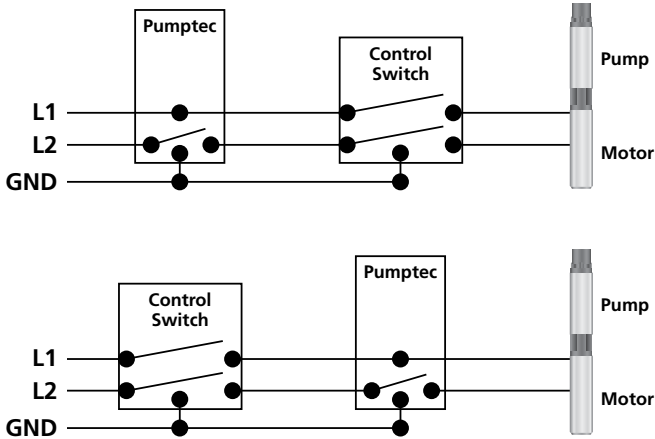

Figure 2A: 2-Wire Motor Installation Options
5. Pumptec may be wired upstream or downstream of the control switch for 2-wire and 3-wire motors. Select an installation option from Figures 2A and 2B.